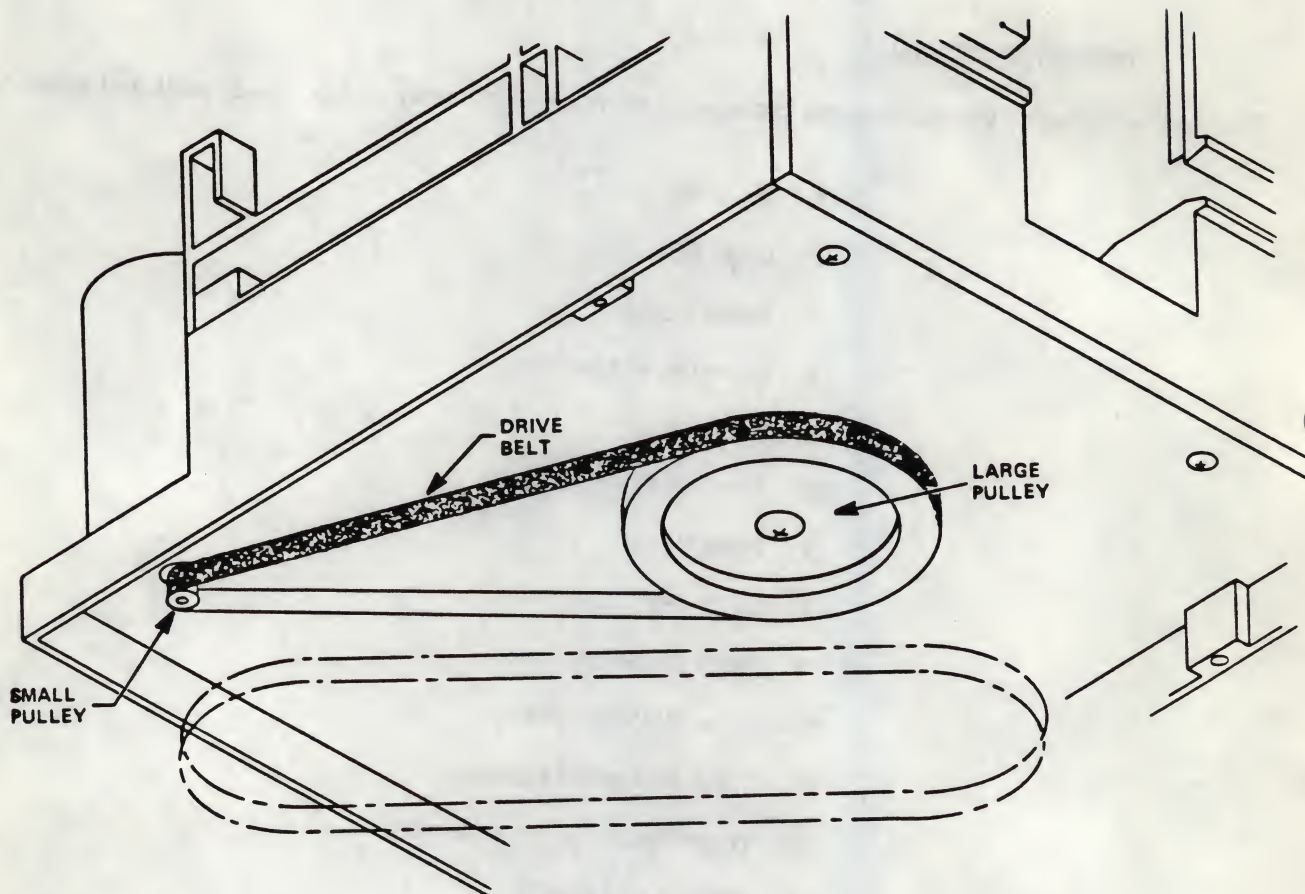

Figure 5-1
5.1.1 Remove the old drive belt from the pulleys (see Figure 5-1).
5.1.2 Taking care not to stretch the new drive belt, install it with the dark, shiny side facing the pulleys (see Figure 5-1).